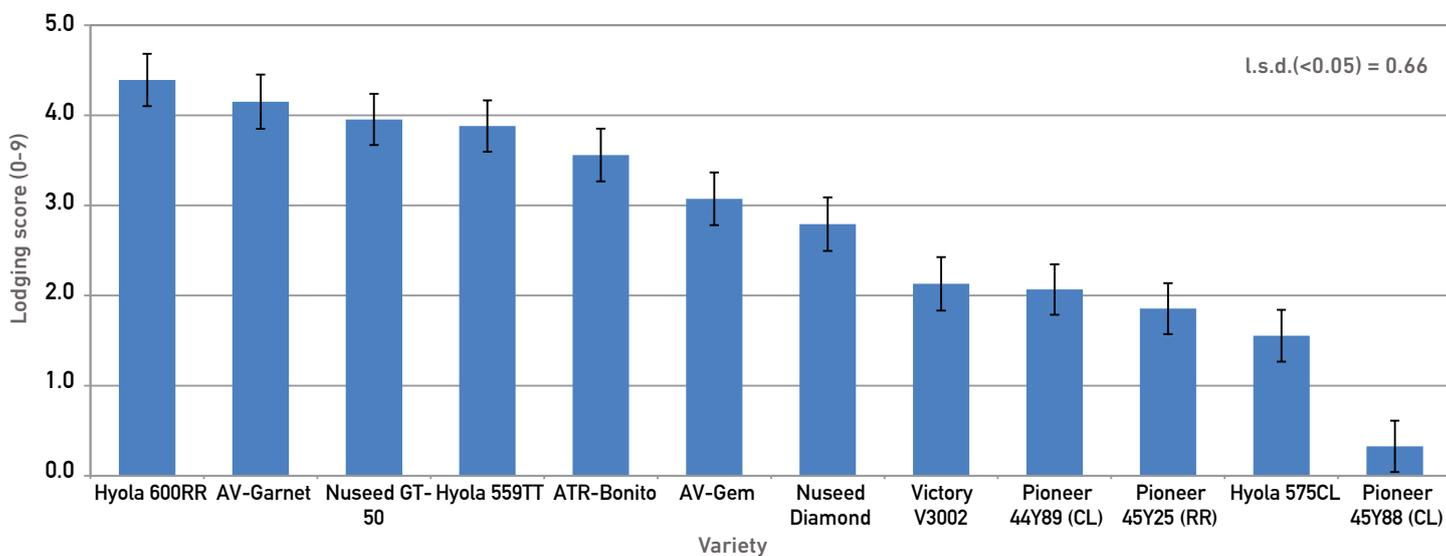

Figure 3. Lodging score of each variety averaged across all nitrogen treatments in the irrigated canola experiment at Leeton in 2016.
Lodging was assessed on 22 November using a scale of 0 to 9, with 0 indicating no lodging and 9 indicating the plants were horizontal. Hyola 600RR had the most severe lodging with an average score of 4.40 but was statistically similar to AV-Garnet, Nuseed GT-50 and Hyola 559TT. Pioneer 45Y88 (CL) had significantly less lodging than all other varieties with a score of 0.33 (Figure 3).